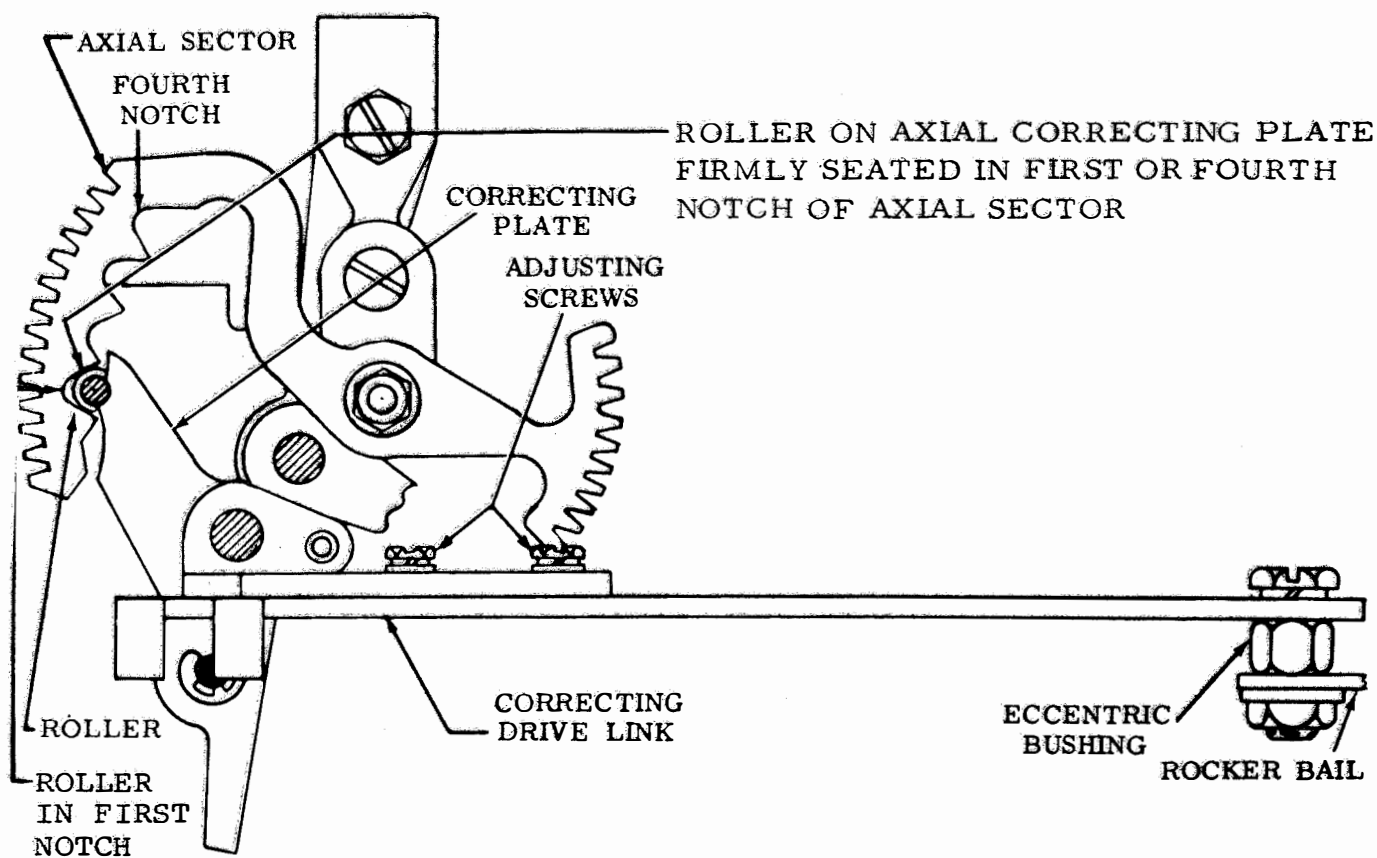

Figure 6-288. Correcting Drive Link (Non-Yielding), Top View
(27) Correcting Drive Link (Non-yielding). Adjust as follows:
- (a) Refer to Figure 6-288.